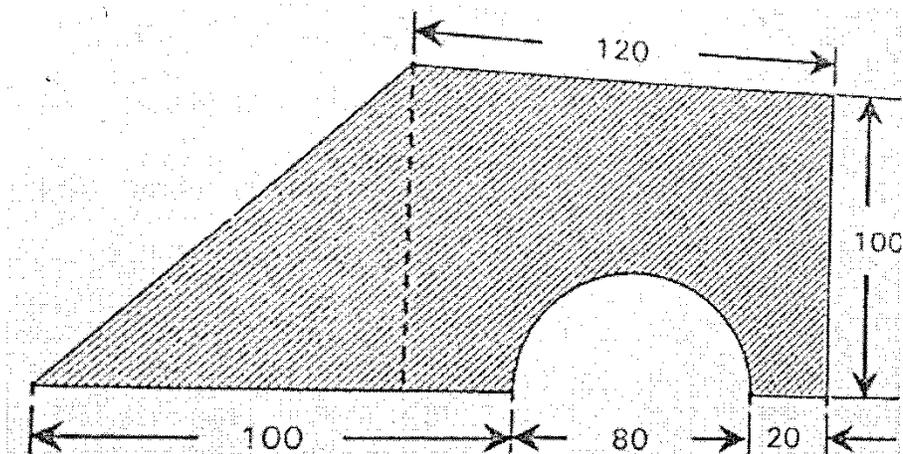

Fig.1
**III.** (a) Define volumetric strain and bulk modulus. (6)
- (b) Determine the change in length, breadth and thickness of a steel bar which is 6 m long, 40 mm wide and 30 mm thick subjected to a pull of 30KN in the direction of its length. Take  $E = 2 \times 10^5 \text{ N/mm}^2$  and Poisson's ratio = 0.2. (9)
- IV.** (a) Define thermal stress and strain. (6)
- (b) A square bar 25mm sides and 200mm long is subjected to a pull of 100 KN in the direction of its length. The extension of the bar was found to be 0.120mm, while the decrease in each lateral dimension was found to be 0.0043mm. The value of the modulus of rigidity for the material of the bar is  $0.7 \times 10^5 \text{ N/mm}^2$ . Find the Young's modulus, Poisson's ratio and bulk modulus. (9)
- V.** (a) Explain the perpendicular axis theorem. (6)
- (b) A block having 1000 N is pushed by a force of 200 N on a rough horizontal plane. If the line of action of push is  $20^\circ$  with horizontal. Find the coefficient of friction. (9)
- VI.** (a) Define sliding friction and rolling friction. (6)
- (b) Find the centroid of the shaded section shown in fig 1. (9)